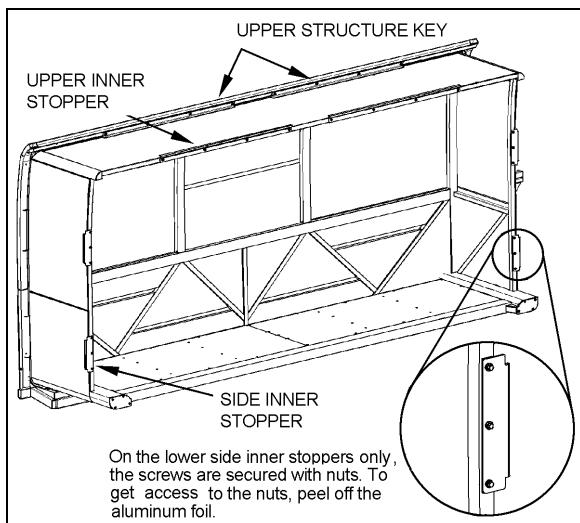
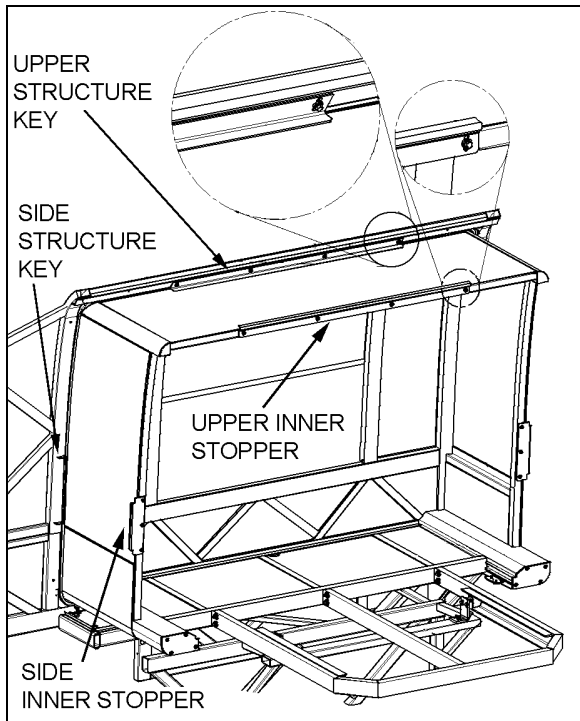

FIGURE 3: FRONT SLIDE-OUT
FIGURE 4: REAR SLIDE-OUT
The front slide-out is equipped with six inner stoppers laid out in the following way: two stoppers on the top horizontal member of the slide-out, and two stoppers on each vertical upright, while the rear slide-out is equipped with only three stoppers (Figure 3 & Figure 4). The upper inner stoppers are used to provide a support to position perpendicularly the slide-out with the vehicle structure.
The side inner stoppers are used to block the extension of the slide-out. They act as ultimate physical limits but take note that when the "out limit" sensors are properly adjusted, the slide-out extension stops before the side inner stoppers reach the side structure keys (Figure 3 & Figure 4).
2. Adjust the upper structure key and the upper inner stoppers according to Figure 4 with the seal deflated. When inflating, the seal presses the roof structure upward and at that moment, the upper inner stopper comes into contact with the upper structure key